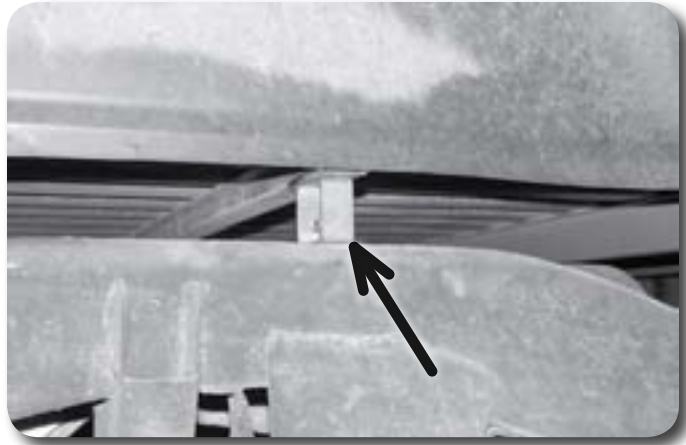

Figure 27
41. Remove the plastic disks from the frame rails where the bed originally rested on the frame. Install the provided steel overload spacers at these points and fasten them to the frame rail with 5/16" x 1" self-tapping bolts in the existing holes in the frame **Figure 27**. Note: Some vehicles only require two overload spacers.